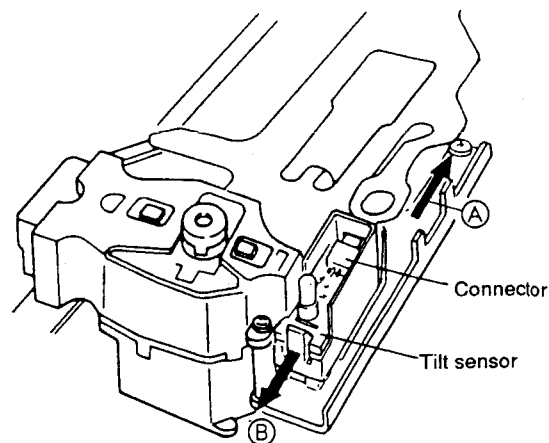

Fig. 7-9
7.6 REMOVING THE TILT SENSOR (Fig.7-9)
- ① Remove the connector (arrow A) of the flexible cable and release the claw (arrow B) to remove the tilt sensor.